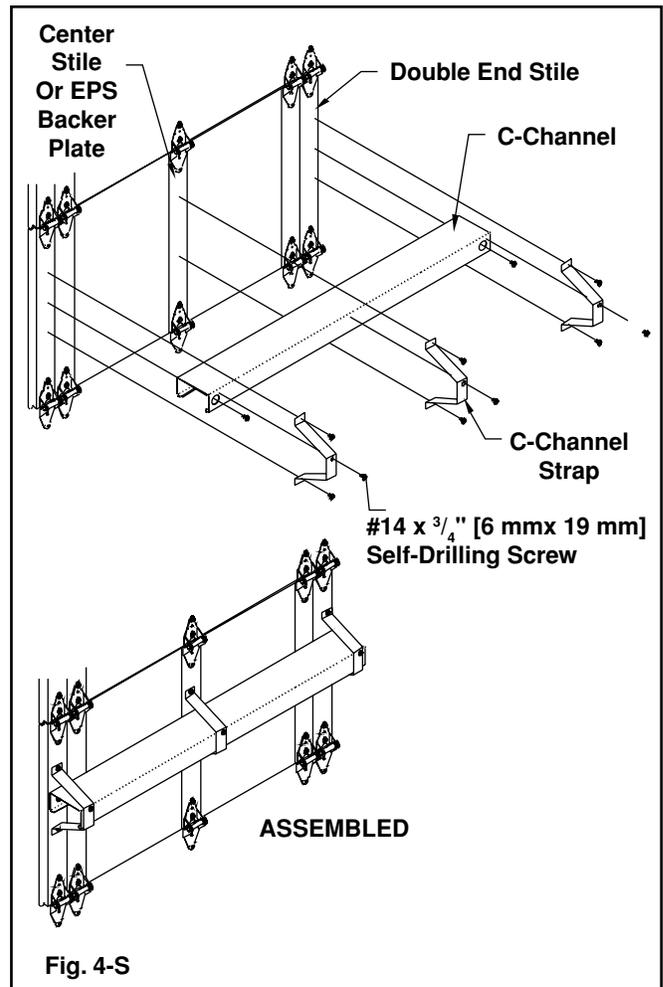

Fig. 4-S
Before installation of hinges, tear the liner off the adhesive on the EPS backer plates and apply vertically across the section at each center hinge location. (FIG. 4-S)
Step 1: Vertical Track. Center bottom section in opening on inside of garage. Level section by blocking up low side. (FIG. 2-T) Leave block until door is completed. Install the vertical track on opposite side of where block was placed, over the two rollers of the bottom section with a twisting motion as in Figure 3-T. Raise track $\frac{1}{2}$ " [13 mm] off the floor, Figure 2-T, and screw $\frac{5}{16}$ " x $1\frac{5}{8}$ " [8 mm x 41 mm] lags (wood jambs), or self-drilling screws (steel jambs) through bottom mounting bracket. (FIG. 4-T) Adjust track sideways to allow $\frac{1}{8}$ " [3 mm] end play in roller—about $\frac{1}{4}$ " [6 mm] from edge of track to edge of door. (FIG. 2-T) Plumb vertical track and put at least two lags or sheet metal screws in the mounting brackets at the top of the door. Final adjustment will be made after door is stacked. Measure from the top of the vertical track to the top of the bottom section and set the opposite track at exact same height repeating above procedure. (FIG. 2-T) Since the bottom section is level, then the vertical tracks must be level. **Make sure bottom rollers do not come out of the bottom of the track.**